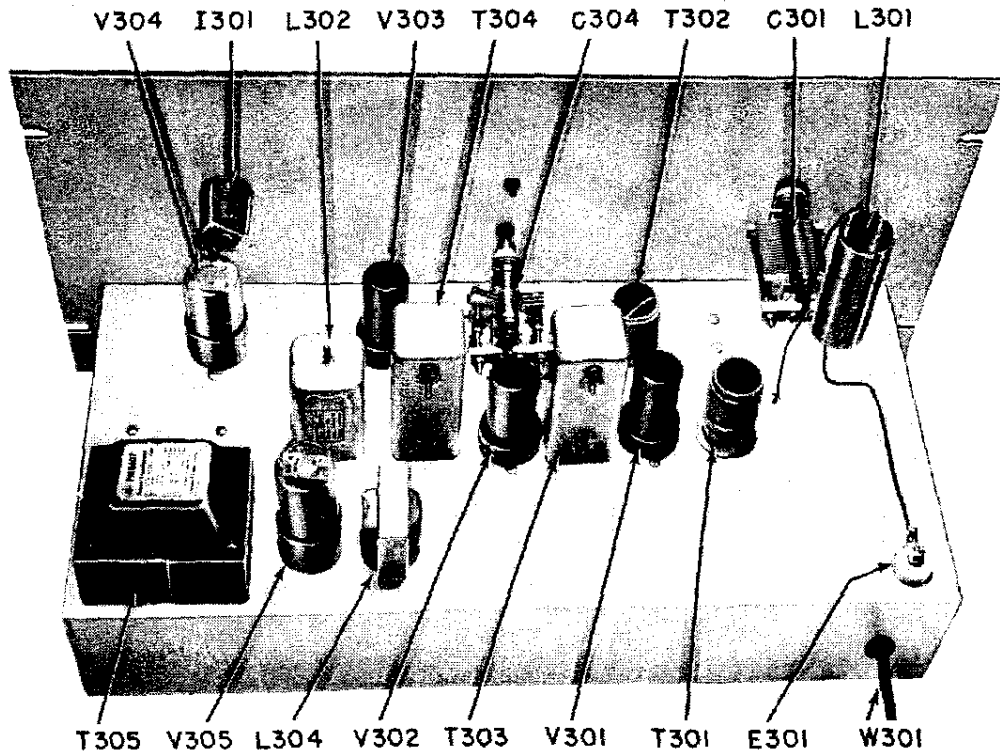

Fig. 3-13. Top view of the General-Class station receiver.
- Figures 3-13 and 3-14 show the completed receiver.